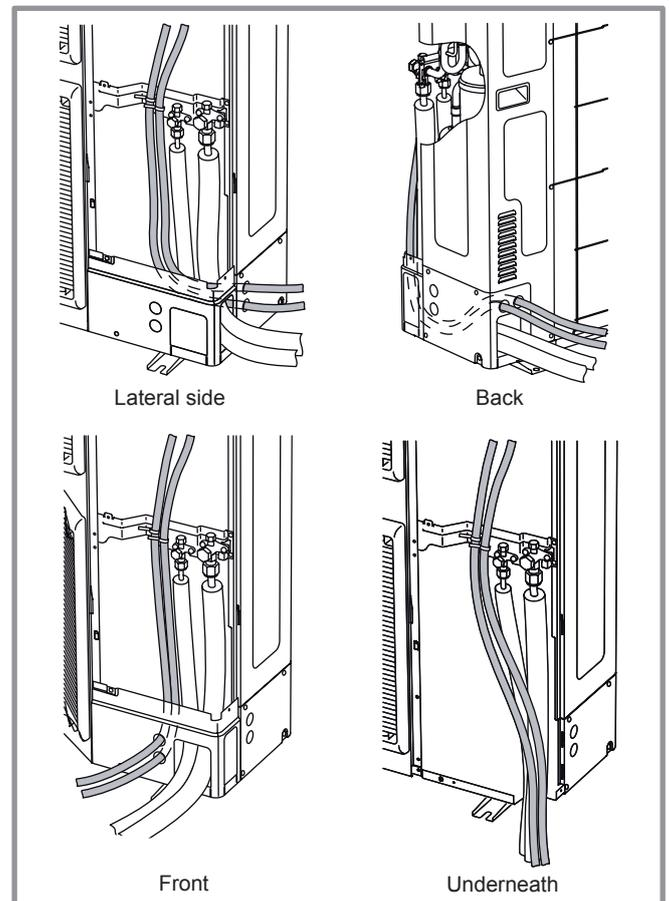

figure 37 - Location of electrical cables and refrigeration connections to 3-phase outdoor unit
- Make the connections in accordance with the diagram figure 37, page 26.